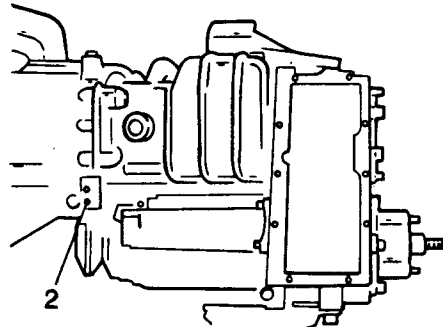

Fig H2.6
- (4) Refer to Fig H2.6. Replace the selector lever (2) for high and low speeds and secure with the screw and nut.
- (5) Replace the double intermediate gear (see Sub-sub-section H2.3, Chapter 3).
- (6) Refit the gearbox to the vehicle (see Sub-sub-section H1.3, Chapter 1).